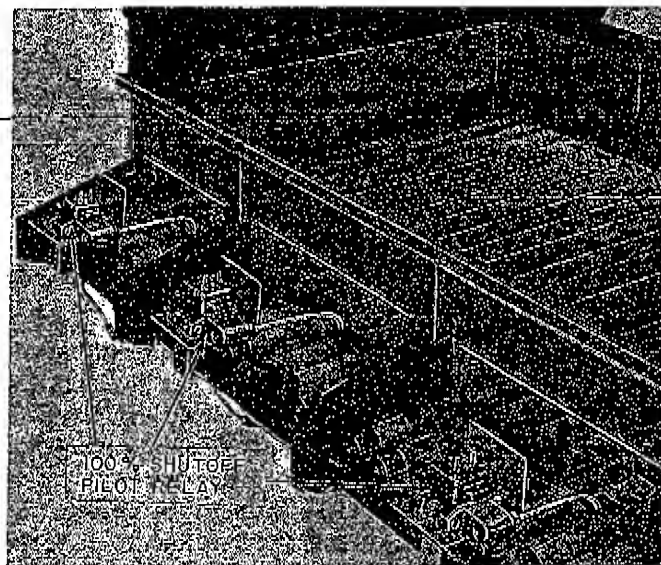

Figure 27
Each pilot is connected to a 100% shutoff combination valve and relay. See Figure 27. The thermocouple transforms heat energy from the pilot flame into electrical energy to operate the valve and relay. When there is a pilot flame, the current generated by the thermocouple holds the 100% shutoff valve in the open position, allowing gas to flow to the pilot. The relay in the valve is held closed, completing the 24-Volt circuit through the Bryant automatic gas control.
2. Mount main manual gas shutoff valve approximately 5 feet above floor level. A tapping for manual pilot gas shutoff valve should be on inlet (supply) side of valve. See Figure 27.